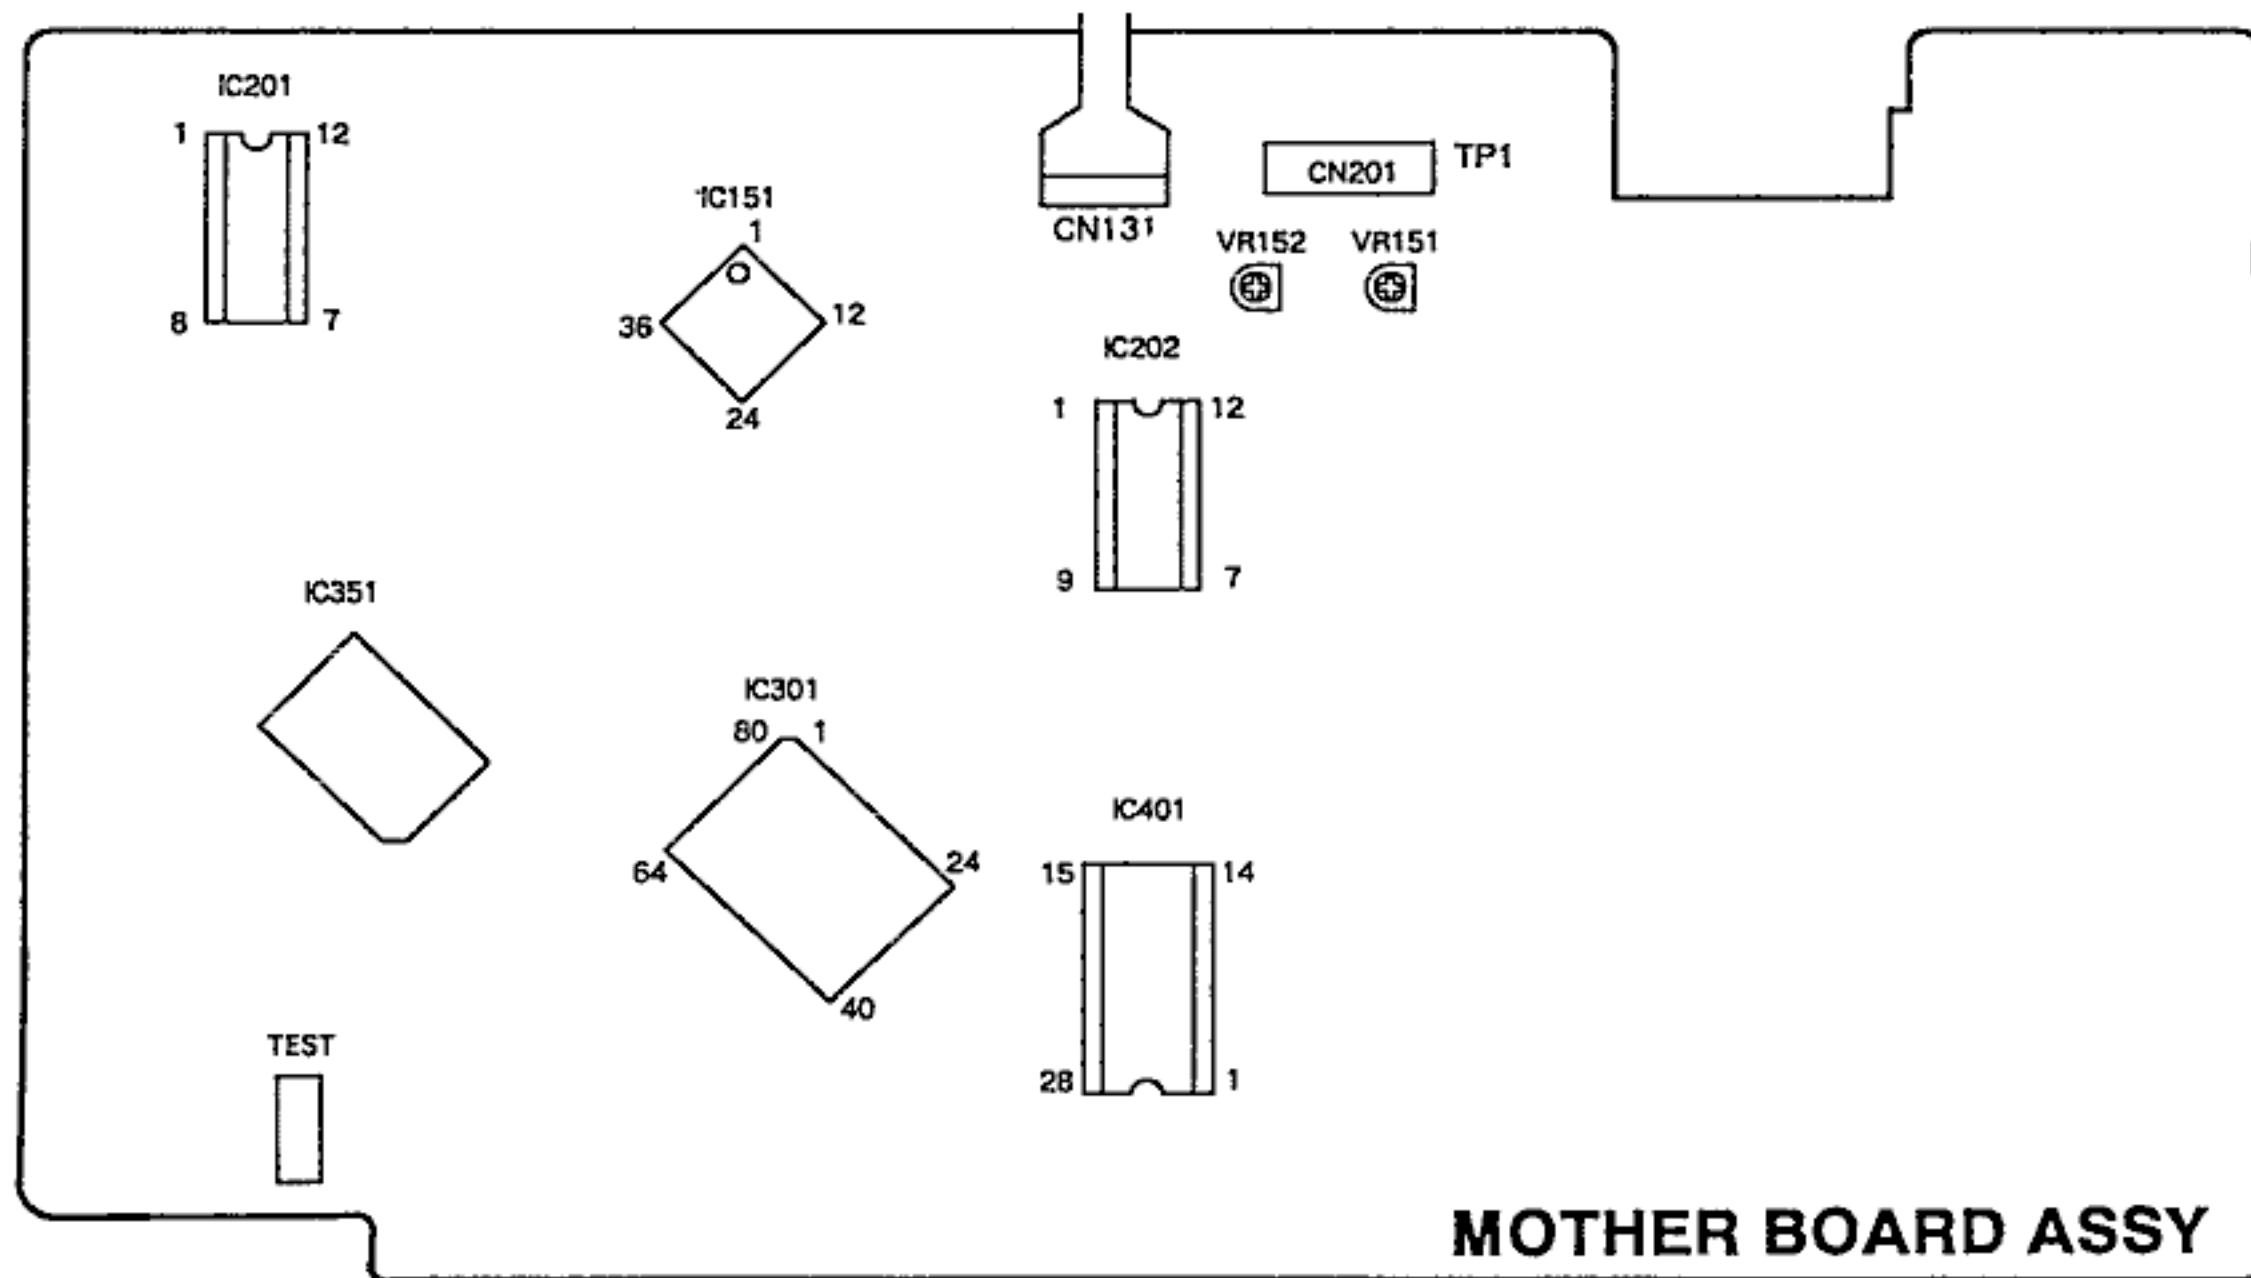

Fig. 1 Adjustment Locations
2. Short the test mode jumper wires. (See Fig. 1.)